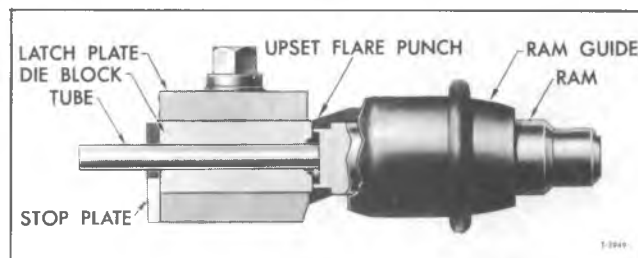

Figure 6—Flaring Operation (Positioning Tubing)
4. Slip the punch into the tool body with gauge end toward the die blocks, install ram and tap lightly until punch meets the die blocks and they are forced securely against the stop plate (fig. 6).